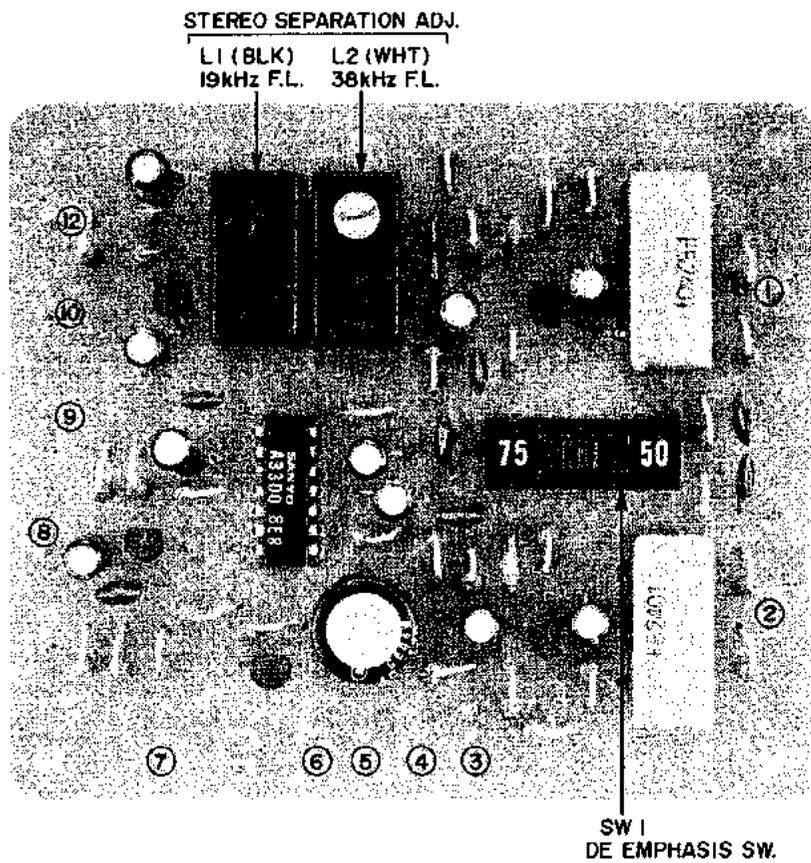

Fig. 12 MPX P.C. BOARD 94-5008
- 6) Adjust the cores of MPX AMP. P.C. Board 19 kHz Filter L1(BLK), and 38 kHz Filter L2(WHT) until the distortion factor is minimum. (Refer to Fig. 12)